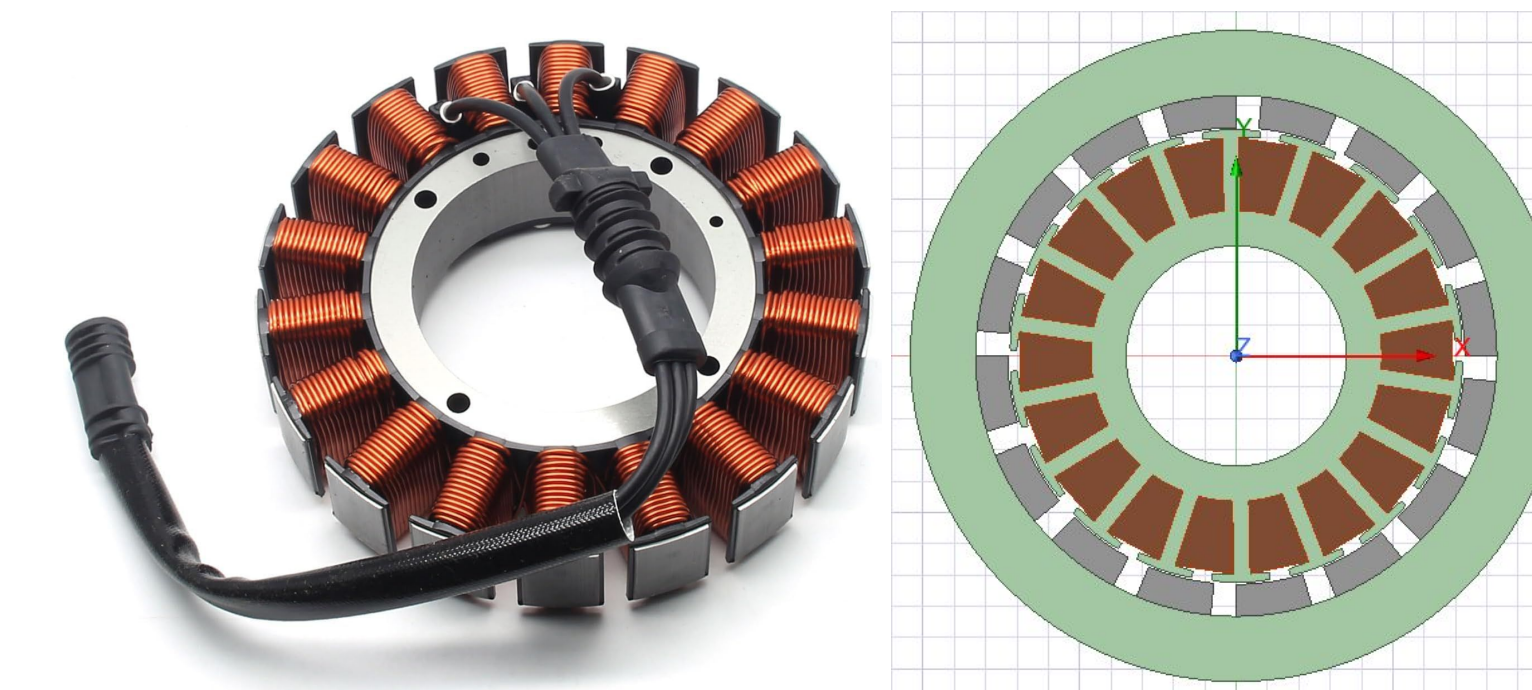

Figure 4. Selected Stator Core and its Ansys Equivalent
- Motor core selection to build design around [Figure 4]. Based upon power and torque requirement calculations: **~1kW 75 Nm max draw.**
- Members installed and learned Ansys Maxwell software for electromagnetic device simulation. Also pictured in Figure 4.